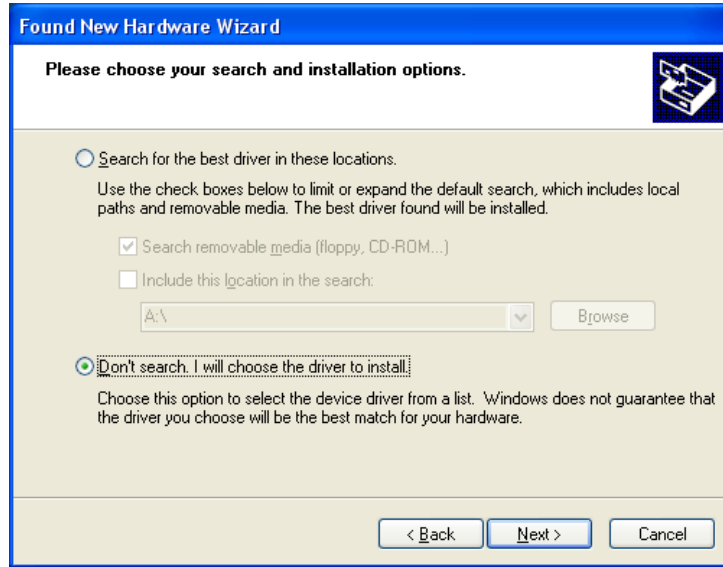

Fig. 4-2 Installation Options
- 2) Select "Install from a list or specific location (Advanced)" in the pop-up "Found New Hardware Wizard". And then click "Next". See Fig. 4-2 for the new pop-up window.